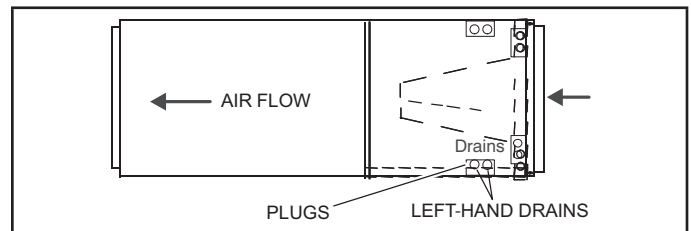

FIGURE 2. Left-Hand Discharge Configuration
- 4 - The horizontal configuration is shown in figure 2.